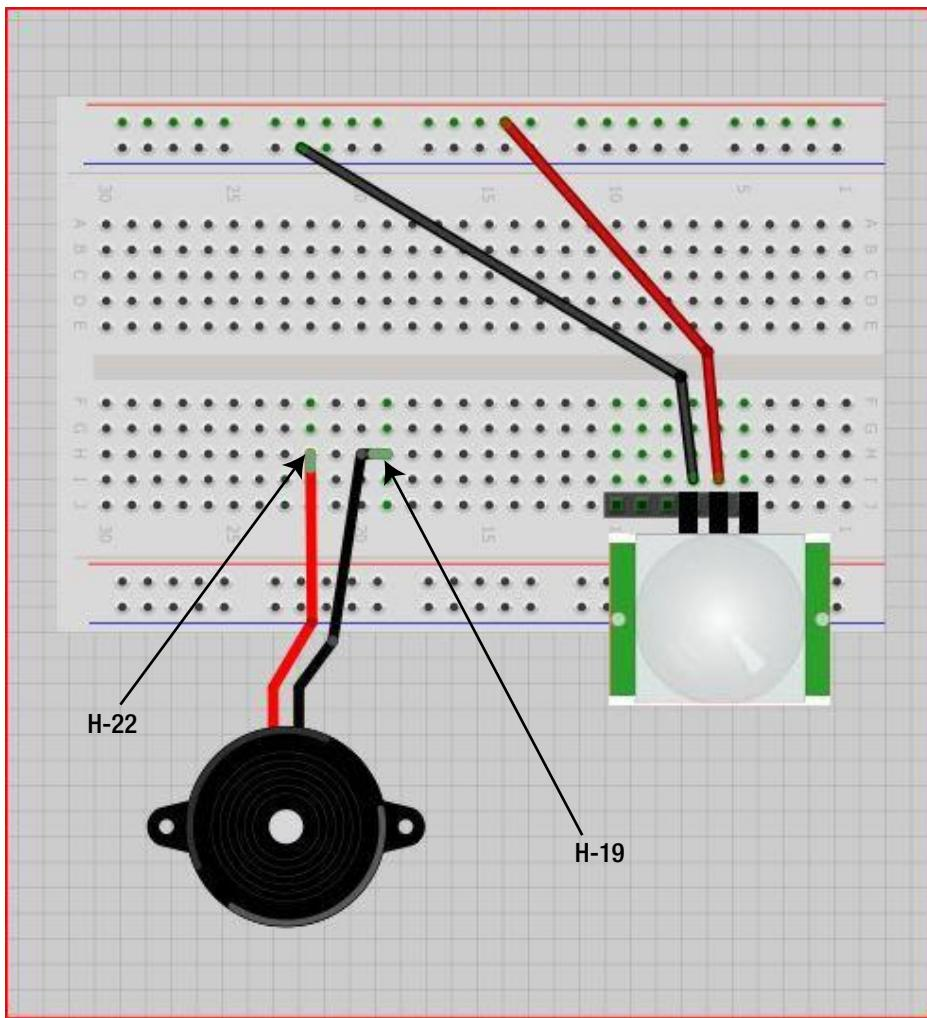

Figure 19-7. Attach the buzzer to the solderless breadboard
6. Now it's time to attach the buzzer. Insert the buzzer into the breadboard so that one of the buzzers pins goes into H-19 and the other pin into H-22. Figure 19-7 illustrates this process. If you're not sure which pin is which, take a close look because they are labeled.